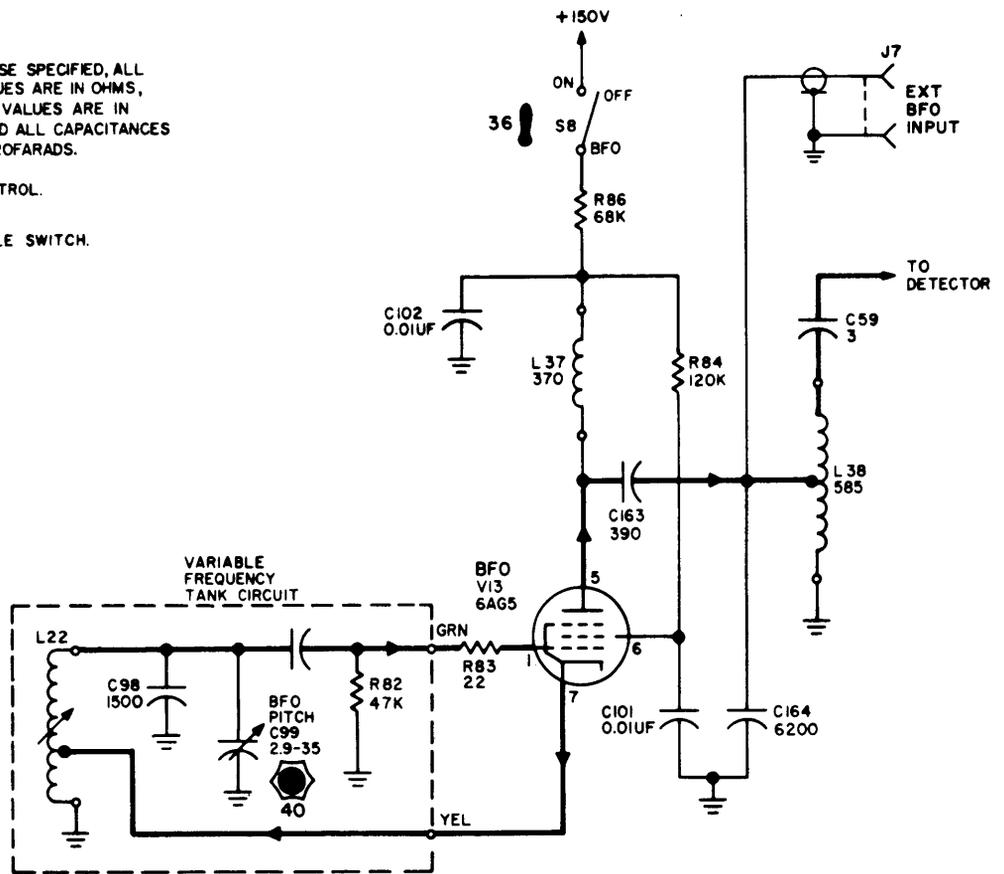

Figure 4-7. Schematic Diagram, GPR-90RXD, BFO
g. BEAT FREQUENCY OSCILLATOR. (See figure 4-7.) - The BFO, which is centered at 455 kc, is injected at the detector plate. The BFO stage, V13, is made operable by applying 150 volts to the plate end screen circuits with BFO switch S8 in the ON position. The output frequency may be varied  $\pm 3$  kc by adjusting BFO PITCH control C99.